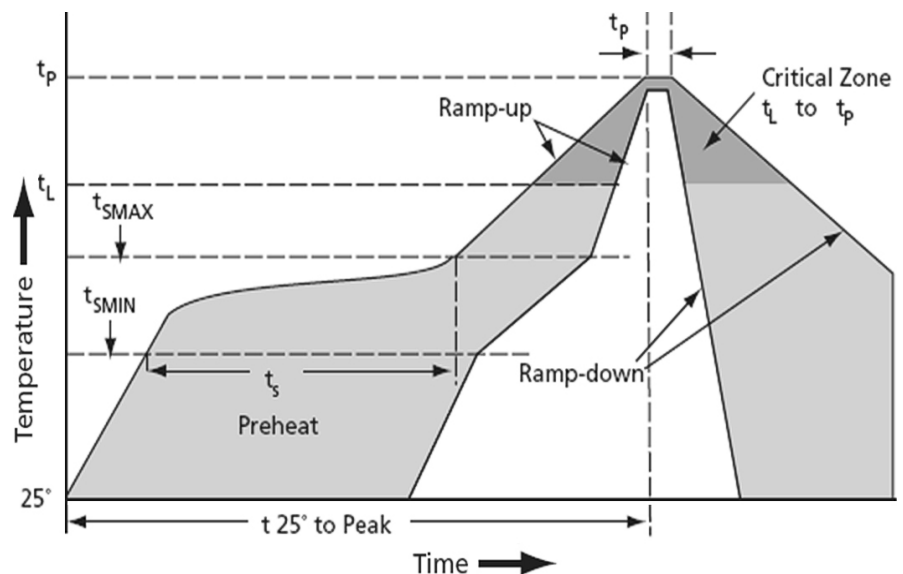

Figure 15: EnerChip Solder Reflow Profile
- The recommended solder reflow profile is shown in Figure 15 below; refer to Figure 16 for time and temperature requirements. Whenever possible, use lower temperature solder reflow profiles.